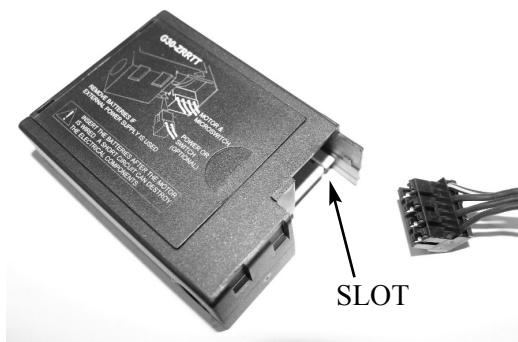

Fig. 17a
1) Carefully push the multi block connector on to the connection within the receiver unit as shown in Fig 17a. This connector can only fit one way, so ensure the slot in the receivers board lines up with the moulding within the multi block connection.